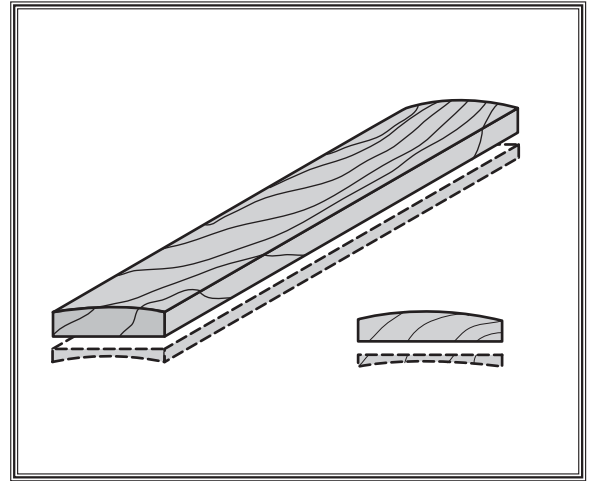

Figure 16. Cupped board corrected.
- Carefully inspect any lumber that you plan to run through the planer. Each board must have at least one flat surface to slide along the planer table. To create a flat surface, pass the stock over a jointer first. See **Figure 16**. Some defects such as moderate twisting, loose knots or severe cracks may make the stock unusable.